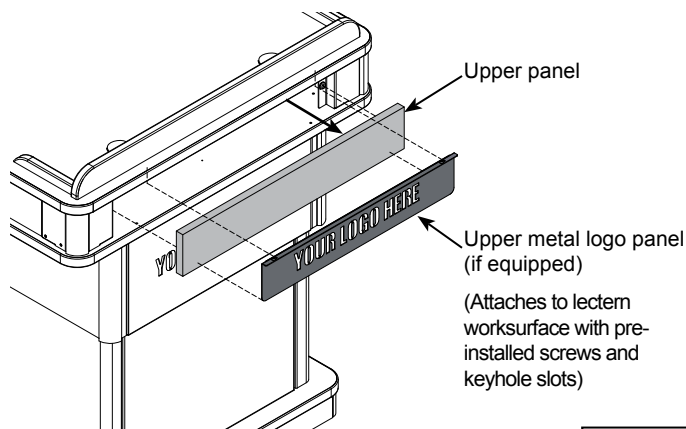

Figure 7
1. If your lectern is equipped with an upper metal logo panel, loosen the (2) worksurface screws, and detach by sliding the logo panel slightly to the right using the keyhole slots. **Figure 7.**